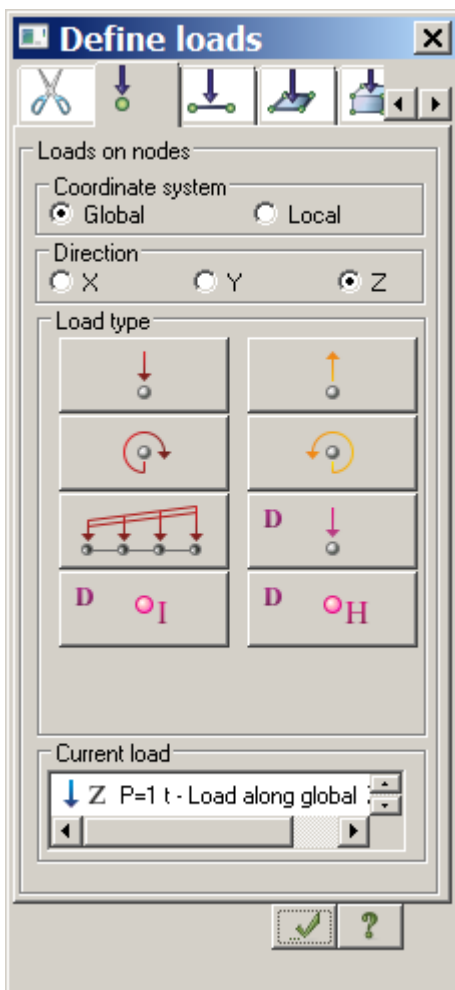

Figure 10.16 Define loads dialog box
- ⇒ In the **Define loads** dialog box (see Fig.10.16), specify **Global** coordinate system and direction along the **Z-axis** (default parameters).